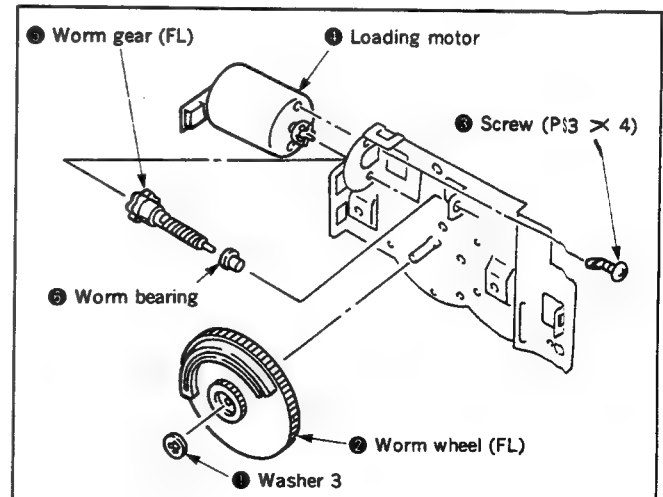

Fig. 3-4.
3-1-4. Loading motor, worm gear (FL), worm wheel (FL), worm bearing (Fig. 3-4)
- 1) Remove washer 3 ①, then pull out the worm wheel (FL) ②.
- 2) Remove the two screws ③, then remove the loading motor ④.
- 3) Remove the worm gear (FL) ⑤ and worm bearing ⑥.